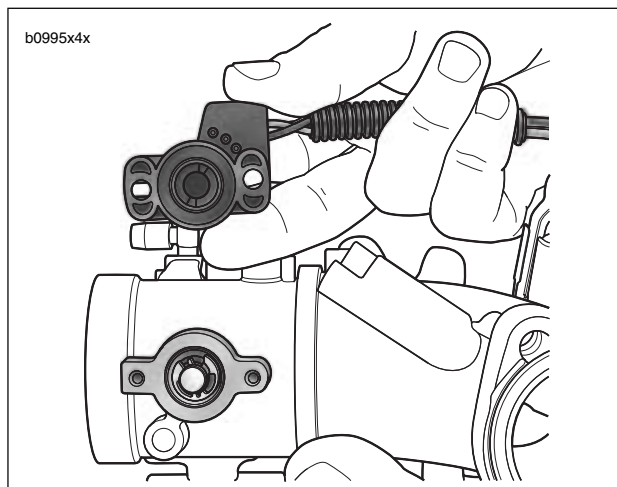

Figure 4-81. Throttle Position Sensor
3. See Figure 4-81. Remove two screws and washers to detach TP sensor.
1. See Figure 4-81. Apply LOCTITE THREADLOCKER 222 (purple) to threads of fasteners.